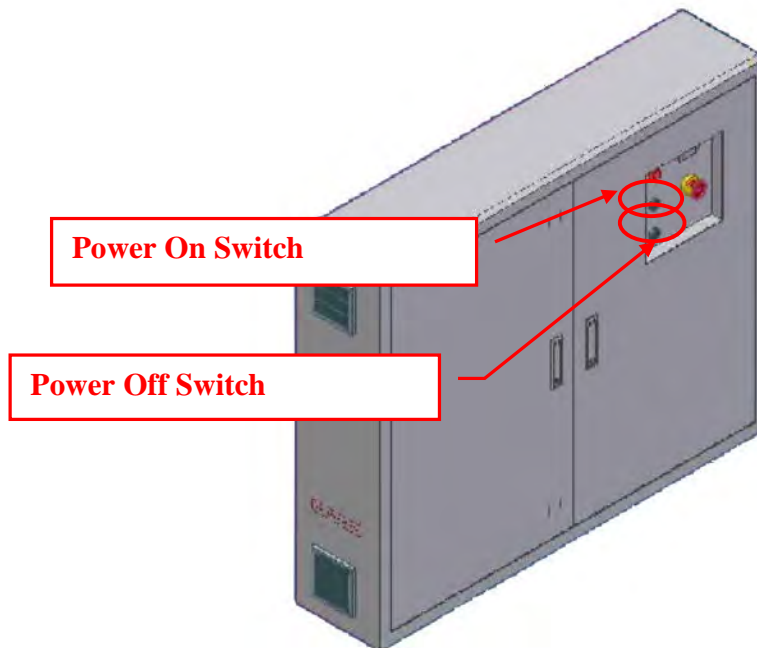

Fig. 6-10 Power Switch
**Step 4** : Turn on the power as shown in Fig. 6-10.